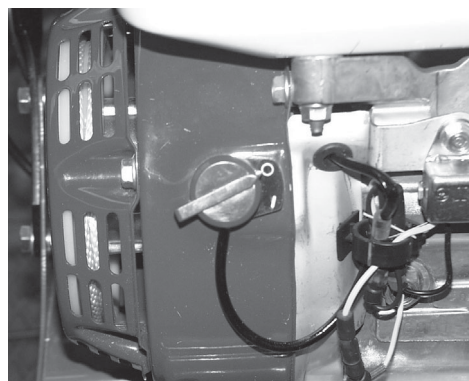

Fig. 6.5
6.5 IGNITION CUT-OUT SWITCH**(A Fig. 6.5)**